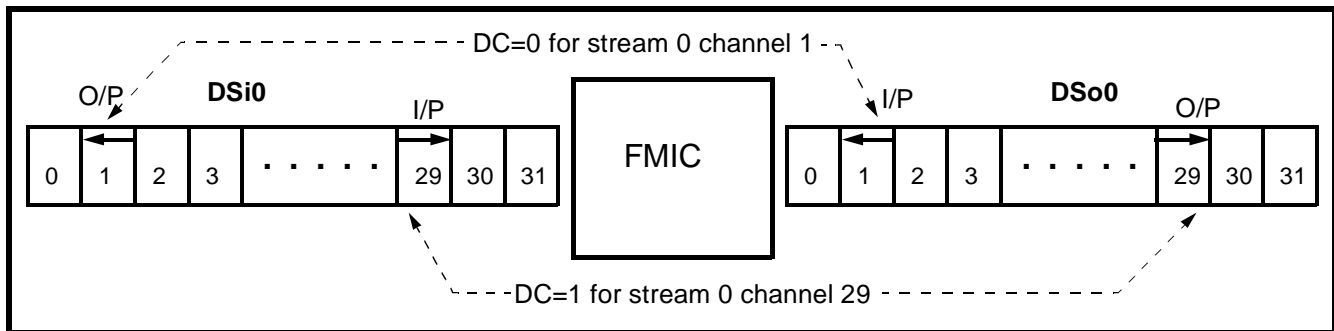

Figure 3 - Per-channel Direction Control
The direction control (DC) bit in connection memory high determines the direction of the associated DSi-DSo channel pair. If the DSi or DSo channel is programmed as an input, the corresponding DSo or DSi channel will automatically be configured as an output. Thus, there are always 256 MVIP input and 256 MVIP output channels or 256 full duplex MVIP channels on the MVIP bus. Figure 3 - "Per channel direction control" illustrates the use of DC bit for direction control on stream 0 channel 1 and channel 29. When DC bit is set, DSo channel is output from the FMIC and DSi is input to the FMIC. When DC bit is cleared, the channel directions are reversed.